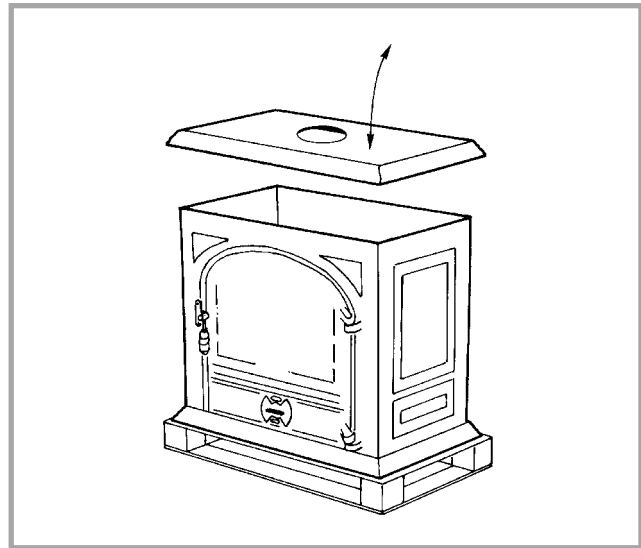

Figure 3 - Removal of cast iron top
Remove the cast iron top from the stove (fig. 3), unscrew the two bolts securing the stove to the pallet and remove the stove from the pallet.
- Lift the cast iron top from the stove (fig. 3).